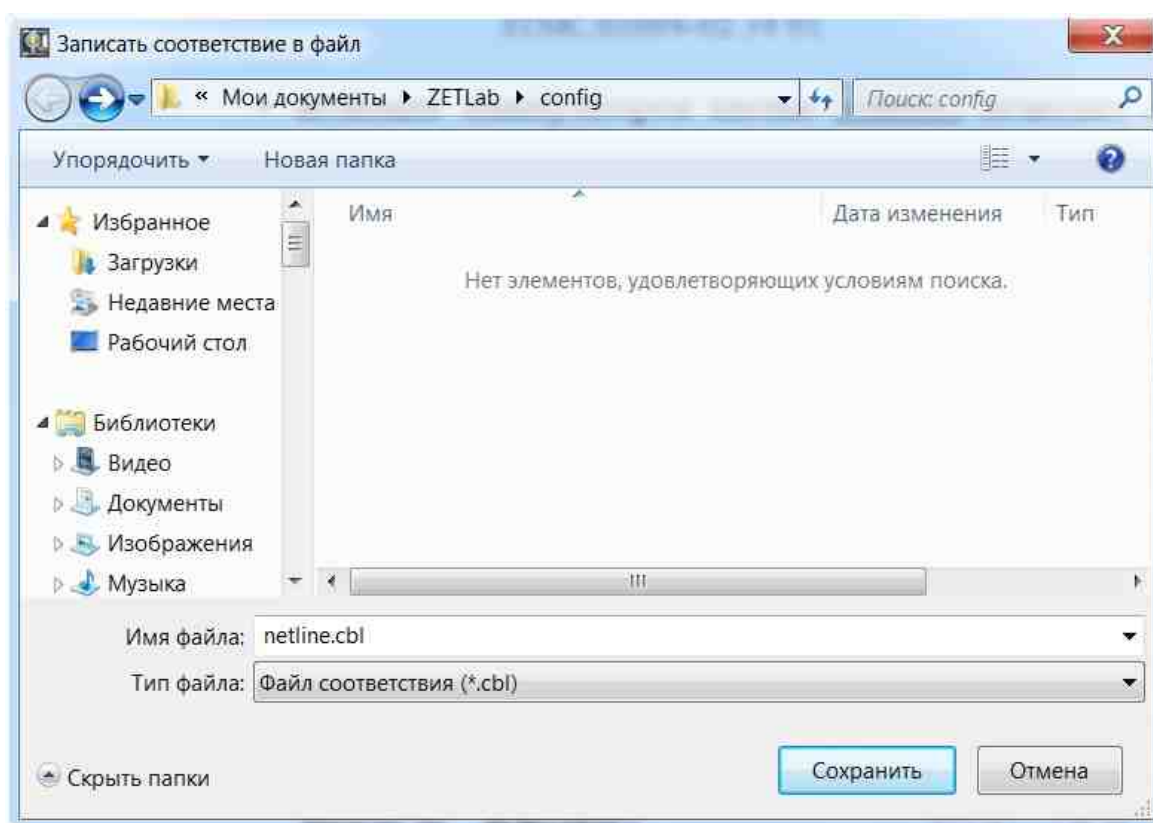

Fig. 3.8 Click on the "Save" button allows you to save the created table as a file with the extension ".cbl"*
■ click on the "Save" button allows you to save the created table as a file with the extension «*.cbl» (Fig. 3.8);